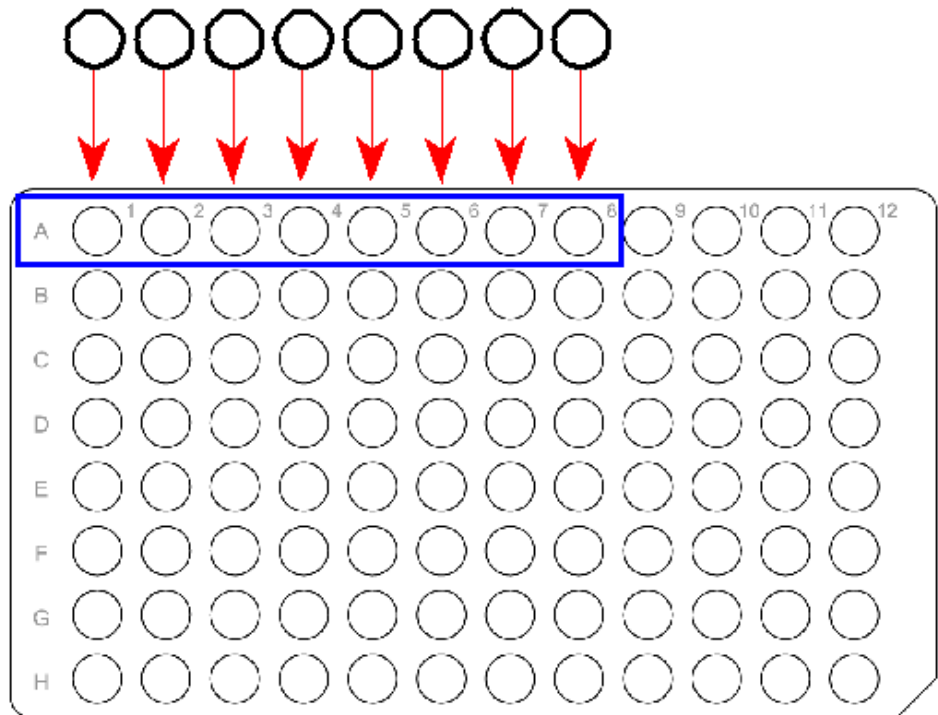

Figure 7 Addition ligation master mix.
- Use a multi-channel P20 pipette to add 5.25 μL of the Ligation Master Mix to each digested sample (Figure 7).